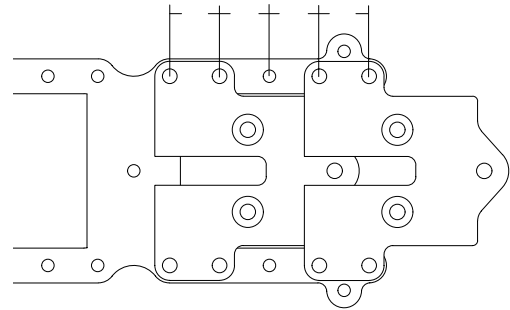
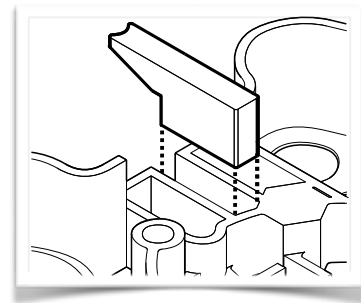

figure 1
figure 2
Once the back side of the plate is accessible then you can move the paddle units on the mount bar by removing the (4) T8 screws and moving the paddle to a new position on the bar. (see fig 1) Each movement is 10mm in distance for a total of 30mm change that can be made on each side of the wheel. Only Tighten the torque screws until snug and there is no play in the mounting plate, too much torque can result in stripping the plastic mount. Once done with one paddle do the same for the paddle on the other side. If you move the paddles to their outermost locations we recommend installing the included Paddle Braces (figure 2) to limit the amount of flex due to leverage on the paddle mounts.